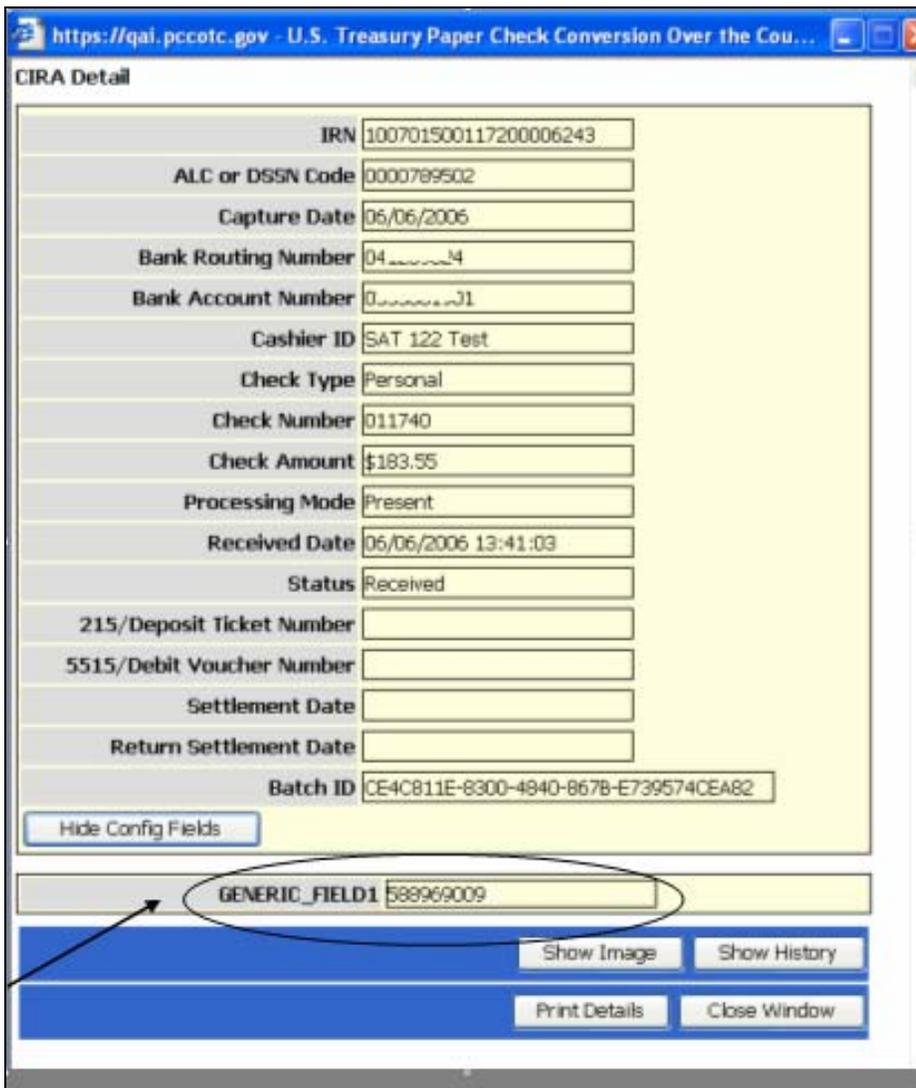

Figure 5.31.0
- The 'Show Config Fields' button can be used to display the unique user defined fields that each Agency can elect to use. If the user defined fields are set up as optional, there may be transactions without user defined field information. In this case, the 'Show Config Fields' button will not appear on the screen. To display the user defined fields for this transaction, click the 'Show Config Fields' button. The following screen (Figure 5.31.0) will appear: